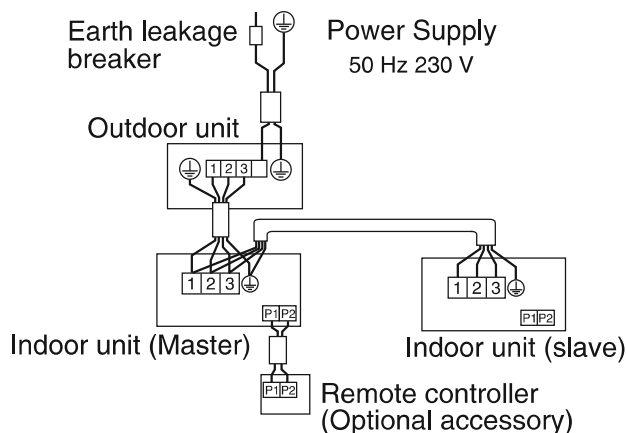

Fig. 30
- **Simultaneous operation system:** 1 remote controller controls 2 indoor unit (2 indoor units operates equally). **(Refer to Fig.30)**
- (1) Remove the control box lid. (See “8. ELECTRIC WIRING WORK”.)
- (2) Cross-wire the terminal block for remote controller (P1, P2) inside the control box. (There is no polarity.) (Refer to Fig. 30 and Table 5)